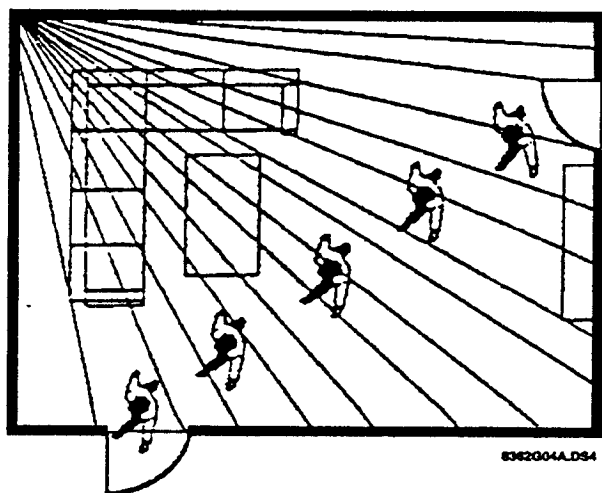

Figure 12. Overhead (Bird's Eye View) Detection Path
2. Position the sensor to protect an area where an intruder would be most likely to walk *across* the detection pattern. See Figure 12.